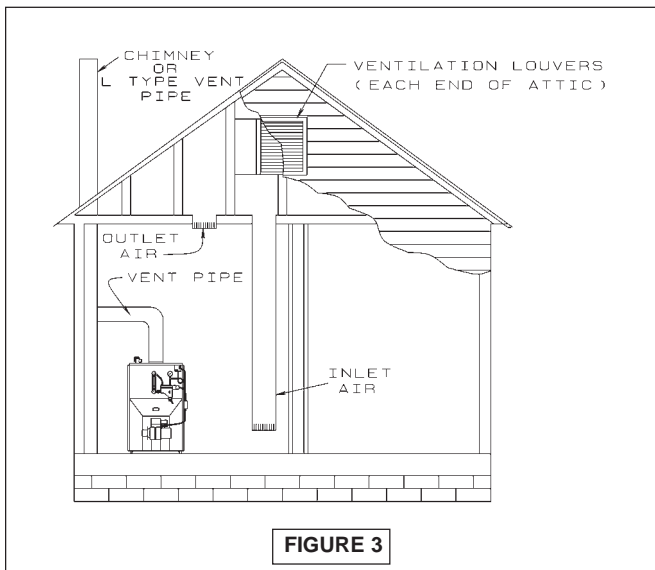

FIGURE 3
B. When communicating with the outdoors by means of vertical ducts, each opening shall have a minimum free area 1 square inch per 4,000 BTU per hour of total input rating of all appliances in the enclosed space. (Figure 3)